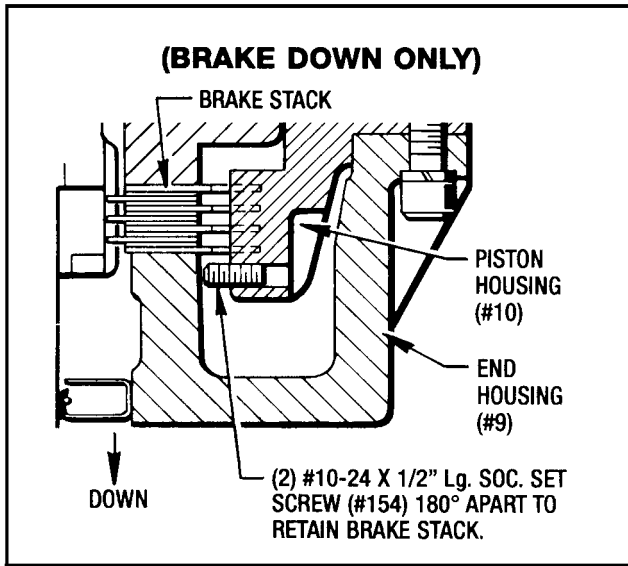

Figure 3-9
**NOTE** - On Vertical Brake Down Units there are (2) #10-24 X 1/2" Lg. Socket Set Screws (#154) installed in the Piston Housing to retain the Brake Stack during Disassembly and Reassembly procedure. (See Figure 3-9 above.)